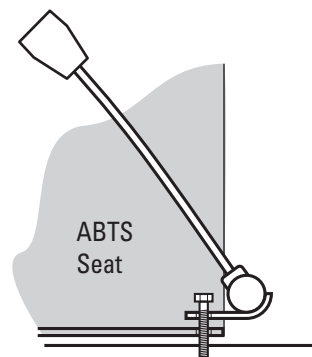
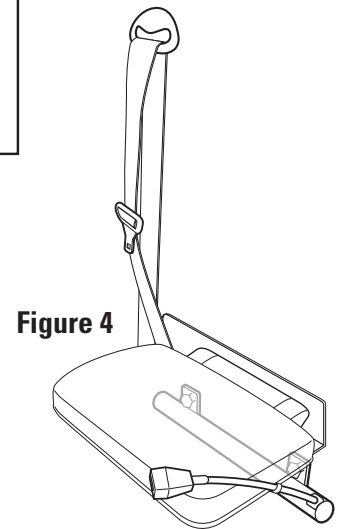

Figure 3
Figure 4
4. For ABTS seats, position seat in cab and align seat holes with cab mounting holes. See **FIGURE 3**. Align the IBP with the rear seat mounting holes on the ABTS seats and insert bolts. For rear wall mounting, position and align IBP with pre-drilled holes on cab. See **FIGURE 4**.